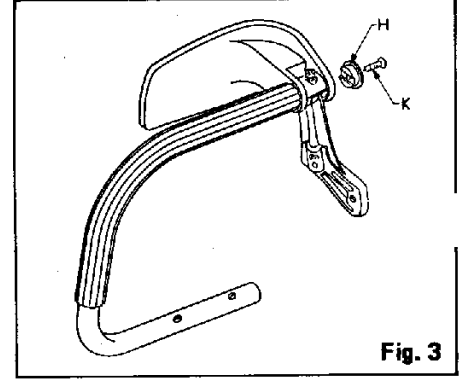

Fig. 3
3. Engage HAND GUARD HOLDER (H) with INSERT (C) and tighten SCREW (K). See Fig. 3.